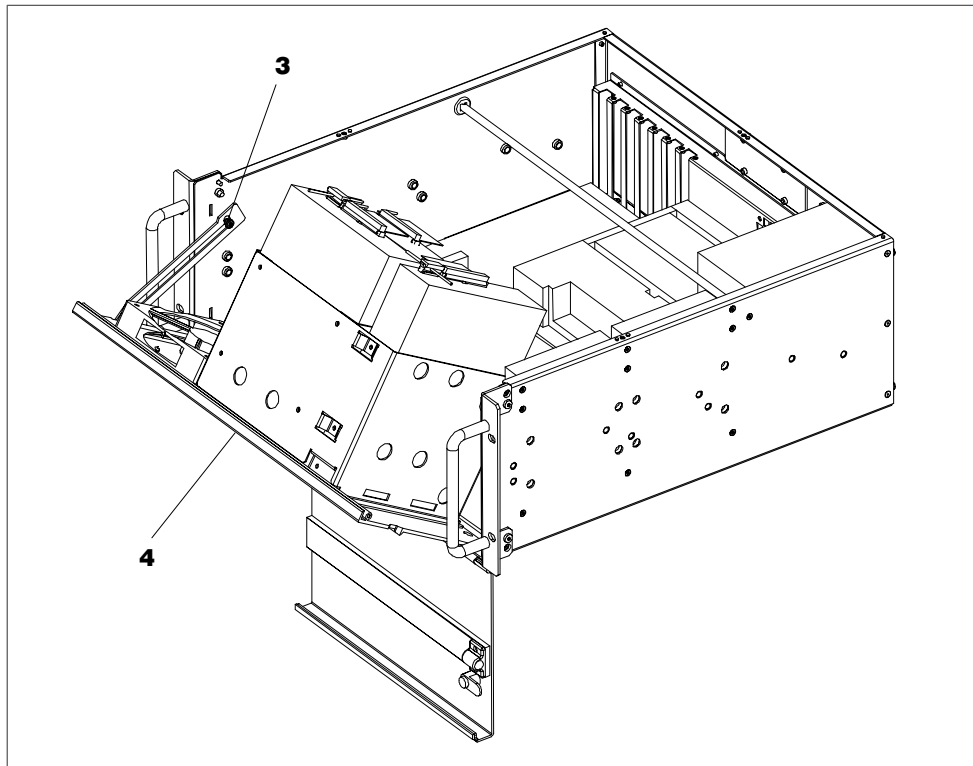

Figure 4-3 Opening the front door
4. Swivel the device front wide until the latch on the side **(3)** snaps into place (see figure 4-3).